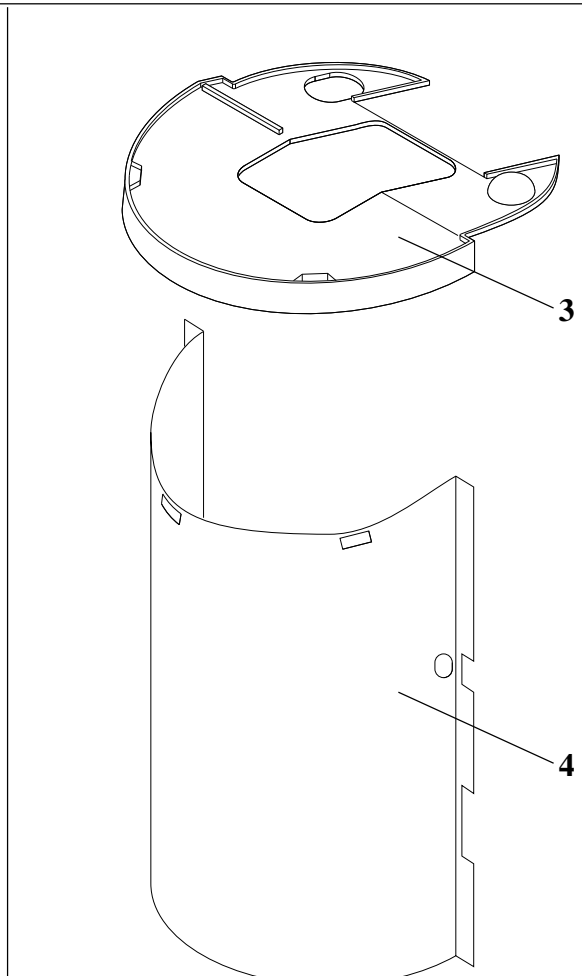

Fig. 2
Therefore new: 30896300 Inner Cover (3) (Fig. 2)
39490101 Protective cover for coffee delivery (4) (Fig. 2)